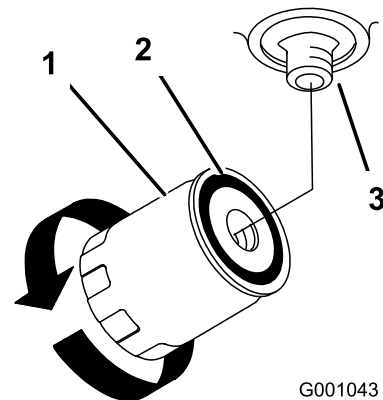

Figure 61
4. Remove the old filter, allow the oil to drain and wipe the filter adapter gasket surface clean (Figure 61).
7. Fill the hydraulic tank with hydraulic fluid until the fluid overflows the filter and then turn the oil filter clockwise until the rubber gasket contacts the filter adapter, then tighten the filter an additional 1/2 turn (Figure 61).